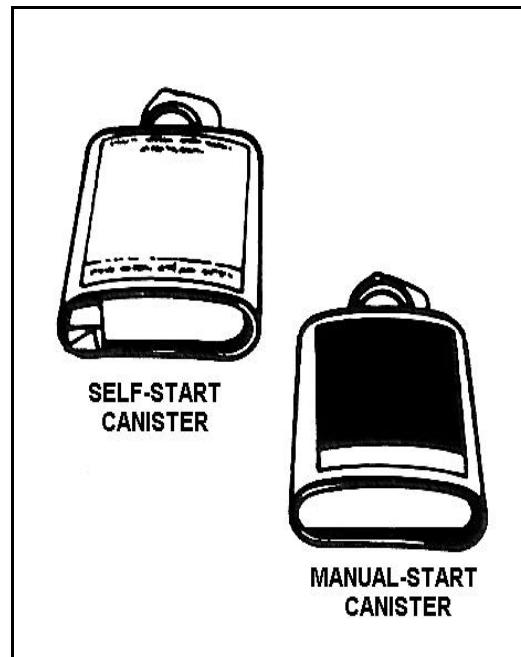

Figure 11-42. Putting on the OBA, Step 4
- **Step 4.** Remove a canister from the carrying case. There are two types of canisters: self-start and manual-start (Figure 11-42, page 11-59). Steps 9 and 10 describe how to start each type of canister you are using.